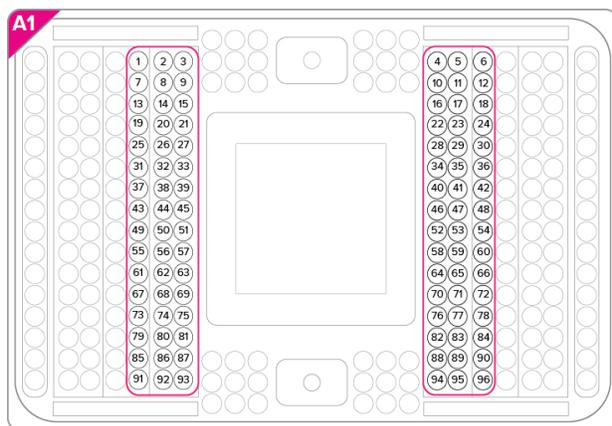

Figure 2. Pipette map of PCR1 products on the C1 IFC.
- 5 Using an 8-channel pipette set to 8.5 μL , pipet the harvested PCR1 amplicons from the IFC outlets according to Figure 2 and place into the 96-well Harvest Plate.